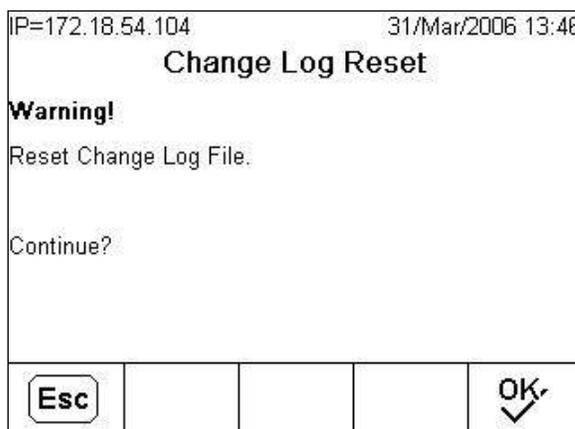

Figure C-33: Change Log Reset Screen
2. Press the RESET softkey  to reset the log file. A warning screen (Figure C-33) displays that asks for verification. All Change Log entries are deleted when the log is reset. Press the ESCAPE softkey **Esc** to cancel the operation, or the OK softkey  to confirm it.
2. Press the RESET softkey to reset the log file. A warning screen similar to the one shown in Figure C-33 displays, asking for verification. Press the OK softkey to continue. A status message displays verifying that the reset was successful. To return to the configuration screen without performing the reset, press the ESCAPE softkey .